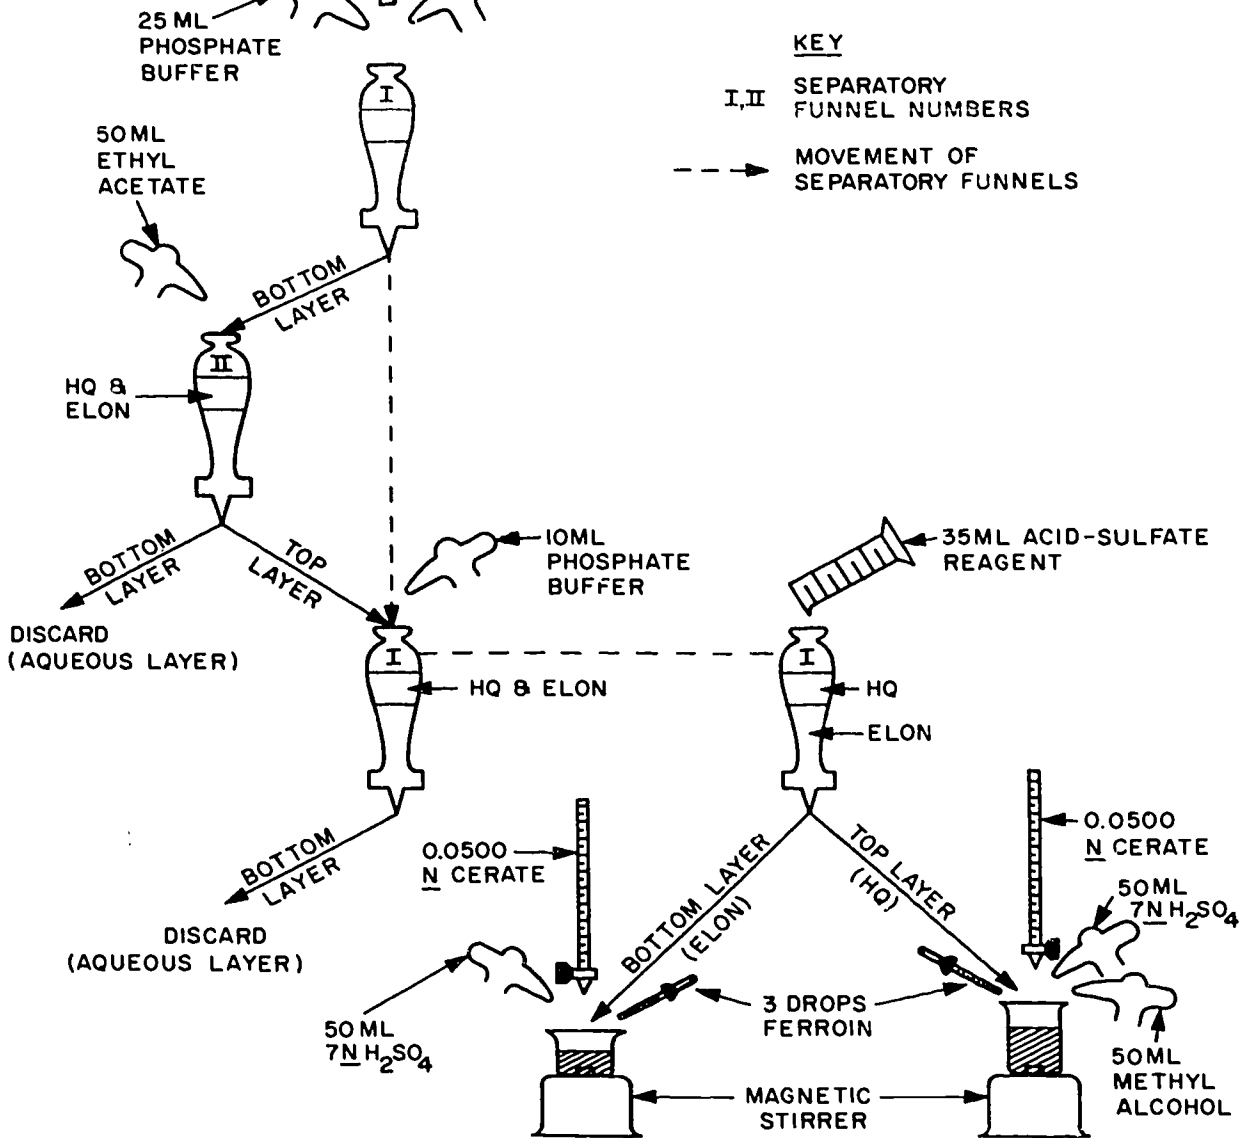

Figure 3-4. Procedure for Elon/hydroquinone determination.
NOTE: This method is applied to any like agent (monomethyl-para-aminophenolsulfate), regardless of its trade name. The method (fig. 3-4) is called a cerimetric determination because it depends on a change of color to determine the end point at which the reaction of reduction-oxidation is complete. The Elon and hydroquinone are physically removed from the developer sample by mixing the sample with water-saturated ethyl acetate. Elon and
a. Add 25 ml of potassium monohydrogen-dihydrogen phosphate buffer, pH 7.9, from a tip-in pipet to a 250-ml separatory funnel (No I in fig. 3-4).
f. Transfer as completely as possible the lower (aqueous) layer to another 250-ml separatory funnel (No 11 in fig. 3-4) without losing any of the top layer, containing HQ and Elon.